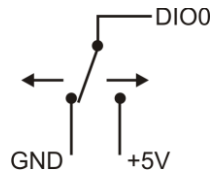

Figure 5. Schematic showing switch detection by digital channel DIO0
When you configure the digital bits for input, you can use the OM-USB-1608FS digital I/O terminals to detect the state of any TTL-level input. Refer to the schematic shown in Figure 5. If you set the switch to the +5 V input, DIO0 reads *TRUE* (1). If you move the switch to GND, DIO0 reads *FALSE* (0).